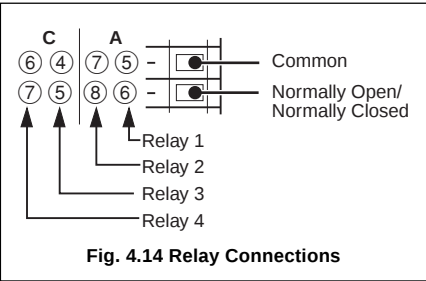

Fig. 4.14 Relay Connections
4.8 Relay Connections – Fig. 4.14